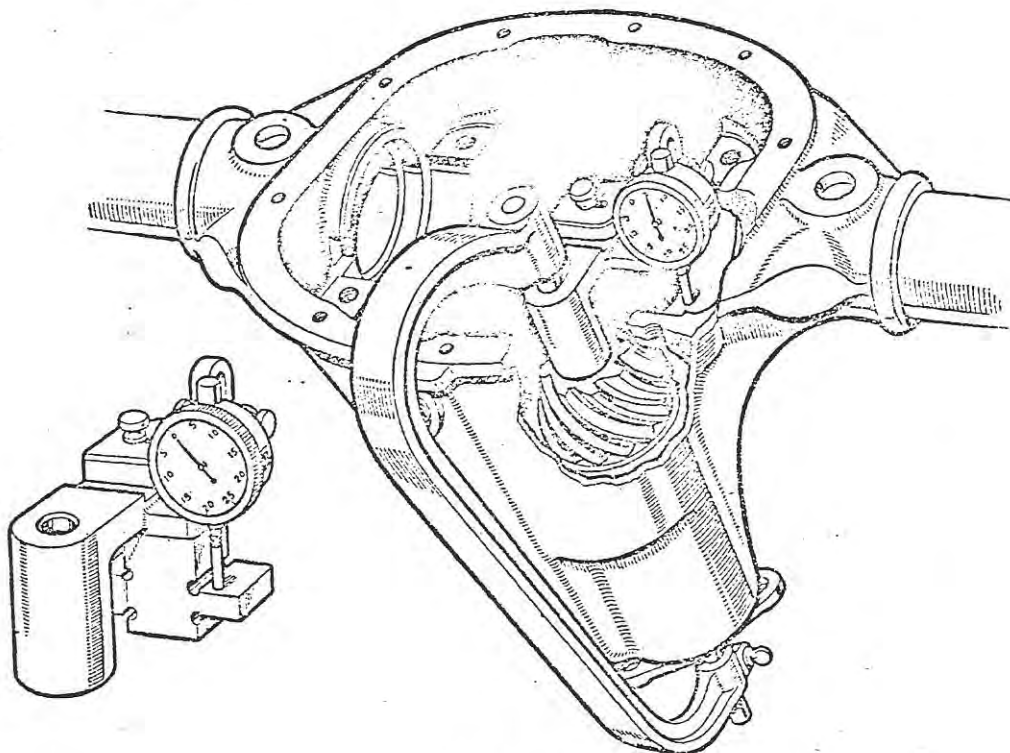

FIGURE 9
- (4) Install the original outer bearing shims on the pinion shank (or if fitting the abutment washer referred to in the note at the end of the section on "Removing Pinion", the original shims, less .048") so that they seat on the spacer or a shoulder on the pinion shank, according to the construction of the unit.
- (5) Fit pinion outer bearing cone, companion flange, washer and nut only, omitting the oil slinger and oil seal assembly, and tighten the nut.
- (6) Check the pinion cone setting distance by means of the gauge Tool No. SL.3P (SE.107), see Figure 9. The procedure for using the gauge SE.107 is:—